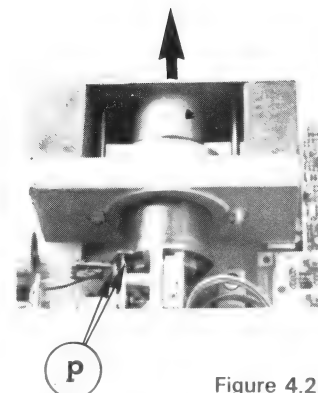

Figure 4.2.9b
- Push the magnet assembly backward in order to disengage this one from the coil (figure 4.2.9b).
- Unsolder voice coil wires at points P (figure 4.2.9b)